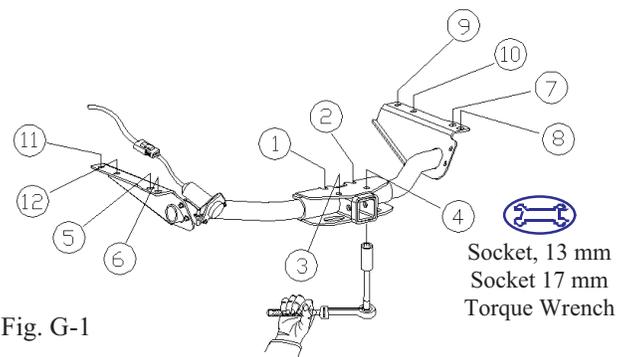

Fig. G-1
- ⚠ 1. Tighten four (4) M12 bolts in the center to 60 +/- 12 lbf-ft (80 +/- 15 N-m). (Fig. G-1, 1 - 4)
- ⚠ 2. Tighten four (4) M12 bolts on the frame rail to 60 +/- 12 lbf-ft (80 +/- 15 N-m). (Fig. G-1, 5 - 8).
- ⚠ 3. Tighten four (4) M8 bolts to 19 +/- 4 lbf-ft (25 +/- 5 N-m). (Fig. G-1, 9 - 12)